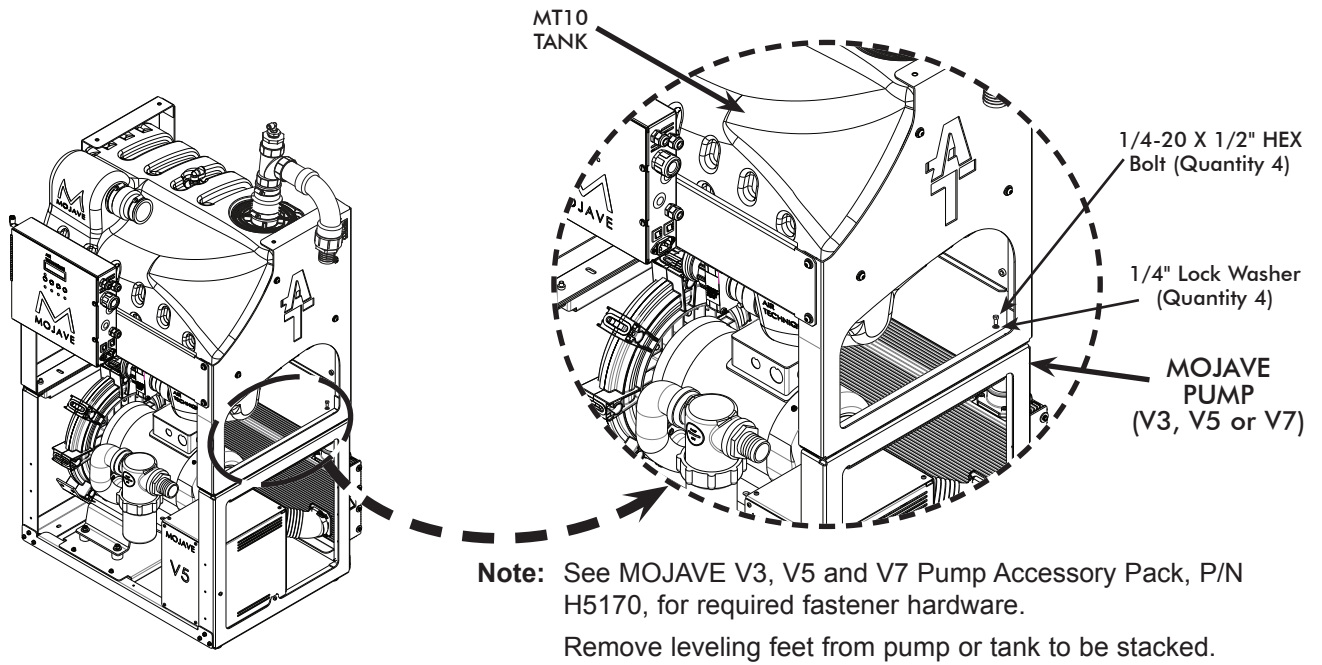

Figure 6. Stacking the MT10 Tank on Top of a MOJAVE Pump Hardware Detail
- Secure the MT10 Tank on top of the associated **MOJAVE** pump as shown by Figure 6.
3. When stacking the MT10 tank on top of a pump, refer to Figure 6 and secure the tank to pump using hardware supplied by the Pump Accessory Pack, P/N H5170.